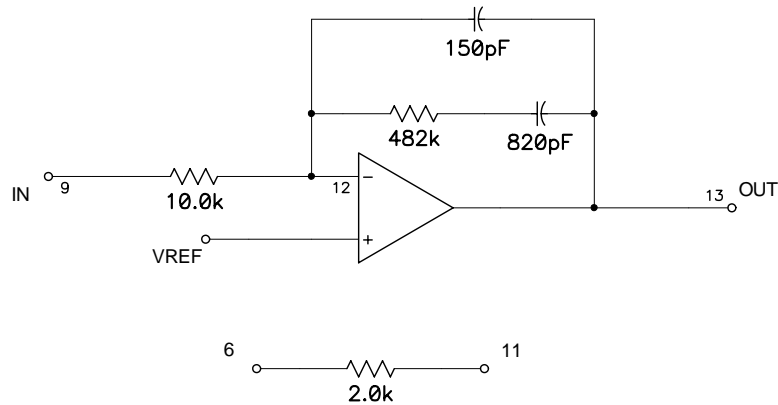

Figure 9.4: Type 2 Controller
- Remove shorting link from J61 and insert the Type 2 Controller plug-in board whose circuit is shown in Fig. 9.4 into the terminal strip J60 (The pin numbers shown in the figure correspond to pin numbers on the terminal strip). This board will add the voltage feedback to the control.